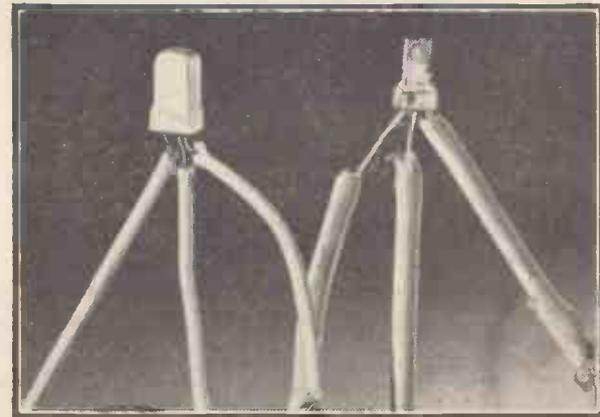

Fig. 3.—Red-spot transistor before and after modification.
Turn the transistor over and repeat the whole procedure. With the finger nails or some tweezers carefully prise off the metallic covering (F) making sure you do not pull the wire connectors in so doing. Do not remove the capsule covering as good results can be obtained without. In fact the incident light is diffused somewhat so that the transistor is fairly sensitive to light which is not actually falling on the junction. This is a great help in optical alignment. The transistor before and after filing is shown in Fig. 3.